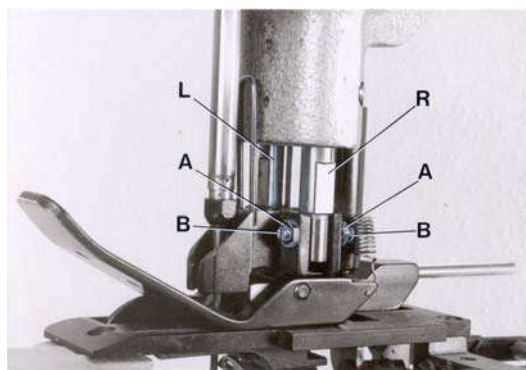

Fig. 9
Remove the needle and rotate the pulley until the feed dog is below the throat plate. Depress the presser foot lifter lever and insert the presser foot in the two presser bars (L and R, Fig. 9). The right presser bar (R) should only engage with its pivot in the groove of the presser foot shank.
Loosen the two lock nuts (A, Fig. 9) and align with the two set screws (B) the needle slot in the presser foot with the needle slot in the throat plate. Secure this setting with the two lock nuts (A). Note: The two set screws (A) should just contact the pivot of the right presser bar (R) but not be tightened. Now tighten the two set screws left in the presser foot shank on the left presser bar. Insert the needle.